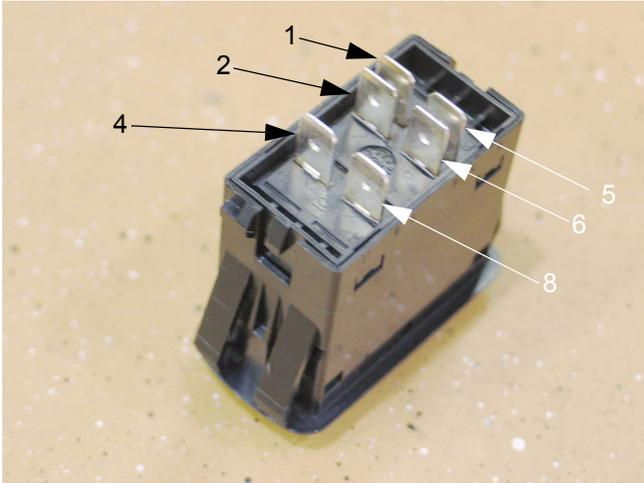

Figure 33.1
33.1. The deck wing lift switch has a constant ground to spade #6 (black wire). Spade #2 (red wire/black trace) receives power whenever the key switch is in any position other than OFF. See Figure 33.1.